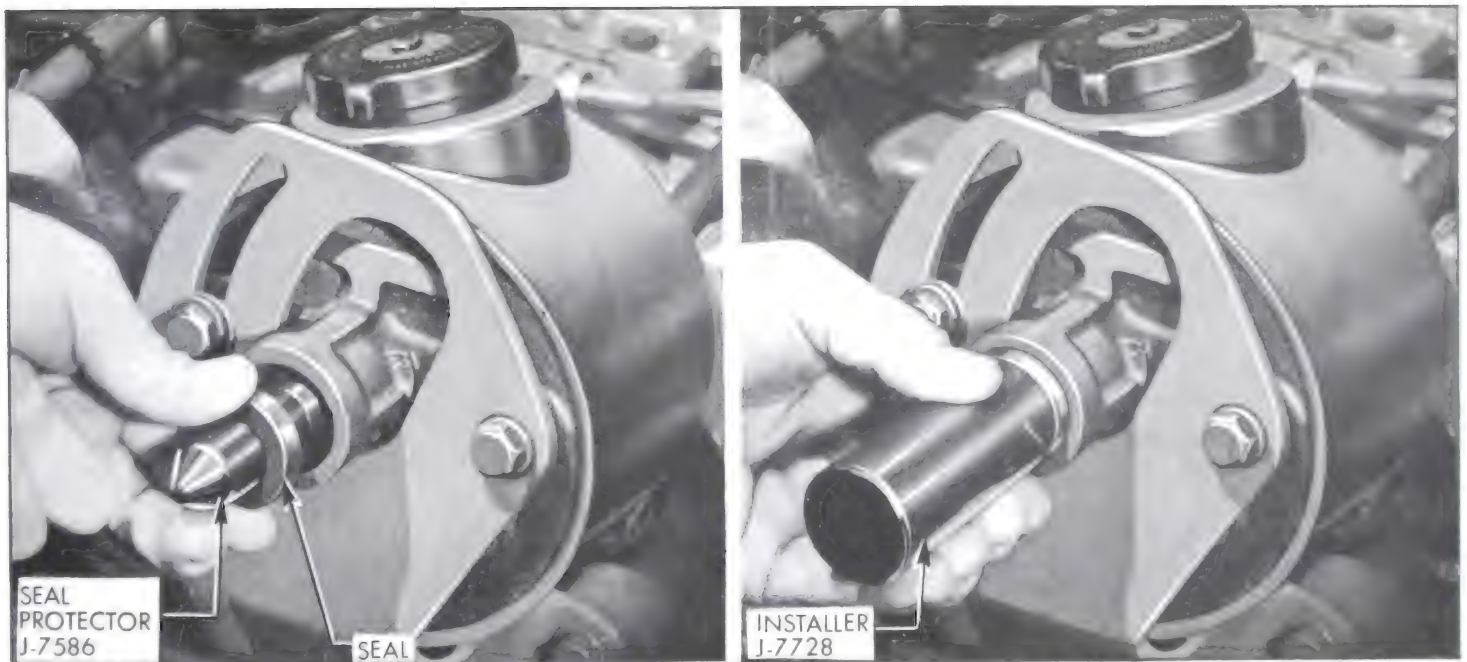

Figure 8-66—Installing Oil Pump Shaft Seal
1. Place seal Protector J-7586 over shaft. Lubricate new seal with automatic transmission oil and drive in pump housing spring side first with Installer J-7728. See Figure 8-66. Just bottom seal in housing. Excessive force must not be used when driving seal in place.